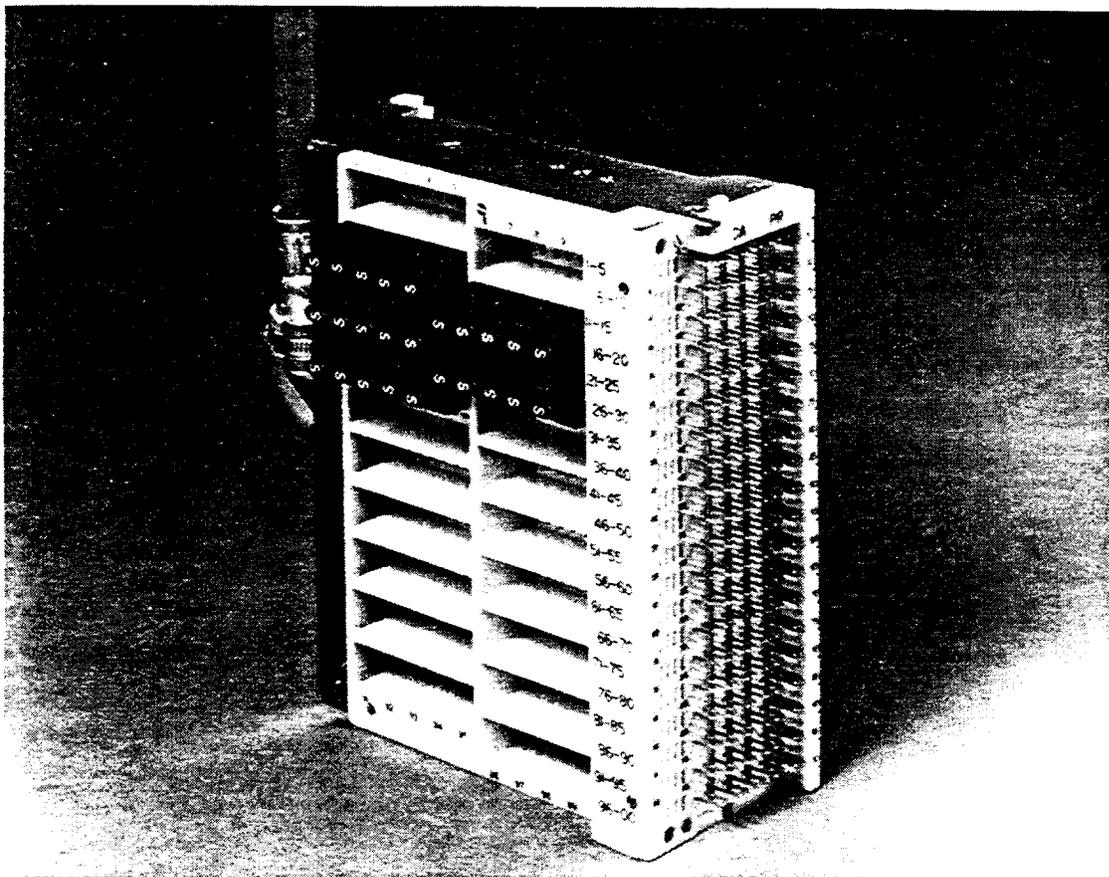

Figure 26. Front View 310L/ML UL Listed Connector
7.02 The 310L- and 310ML-Type connectors conform with all the characteristics of the 310/310M-Type connectors as specified in paragraphs 2.01 through 2.05 of this practice. Although most outward appearances are identical (Figure 26), there are several physical characteristics which are unique to these products.